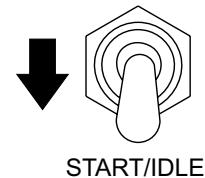

Figure 39. Engine Speed Control Switch Start Idle Position
1. Place the engine speed control switch (Figure 39) in the Start/Idle position (down)..